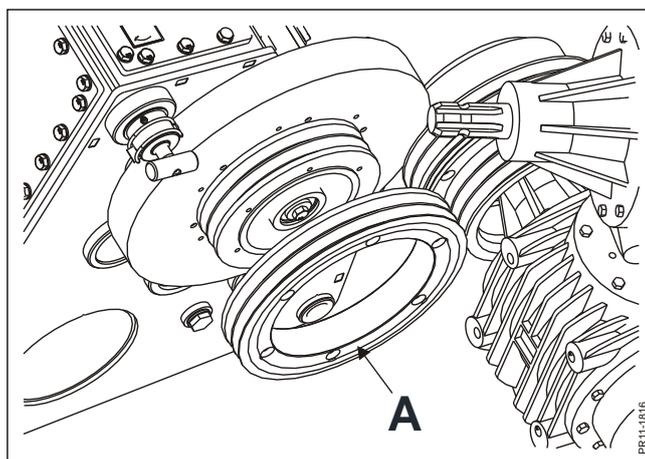

Fig. 4-21
**Fig. 4-21** If you want an exceptionally short chopping length, the outermost pulley ring **A** must be moved from the swivel gearbox to the harvest gearbox. Hereby the following chopping lengths are obtained: